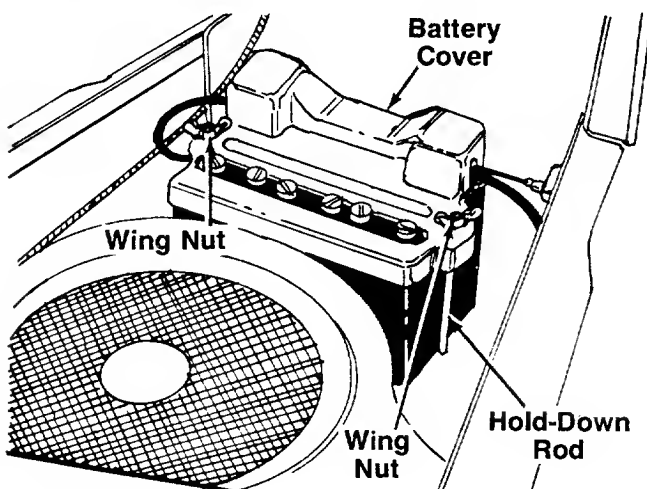

FIGURE 7.
4. Hook one hold-down rod into the hole in battery plate beside the battery. See figure 7. Place the black plastic battery cover in position over the hold-down rod. Secure with wing nut. Attach other hold-down rod to the other side of battery cover in the same manner.